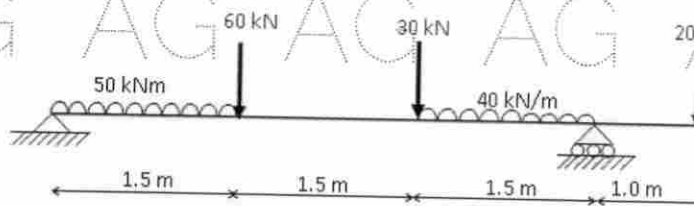

Figure: 2
4. Draw the shear force and bending moment diagrams for a beam supported and loaded as shown in Figure 2. [15]